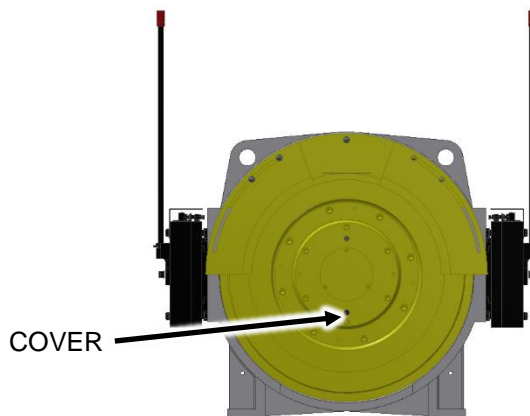

Figure 16
1. Remove the cover shown in Figure 16.